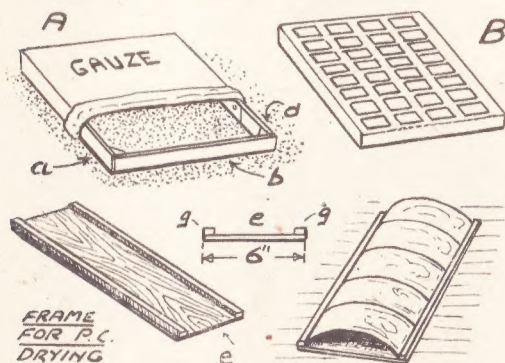

Fig. 1—Frames and materials
The ideal condition is to get air, either warmed or at usual room temperature, all round the prints as they lie in a horizontal position and to this end fine gauze or butter muslin is a great help. This is stretched over a simple frame as (A) in Fig. 1, and the prints are laid out to dry on the taut material, as (B).
Postcards drying naturally tend to acquire a bad curve which is due to the stiffness of the material and is very difficult to get out. Curling can be prevented, however, by using the frame shown in the lower sketches of Fig. 1. This is a length of board (e), 6 ins. wide and  $17\frac{1}{2}$  ins. long which is supplied with the lips (g)—two thin strips of  $\frac{1}{8}$  in. wide wood.